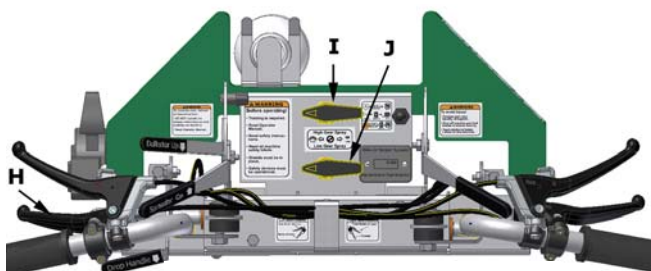

FIGURE 16, Sprayer Controls
Referring to **FIGURE 16:** A Spray Lever (H) with lock is mounted
- To select which nozzle will spray, point the Spray Control Valve handle for the gear selected to the desired nozzle either Broadcast or Trim. The front Spray Selector Valve (I) is used for **HIGH GEAR** and the rear Spray selector Valve (J) for **LOW GEAR**. Point Valve Handle left for Broadcast spraying, right for Trim spraying, and forward to prevent spraying for either nozzle.
- To begin momentary spraying, pull the Spray Lever (H) (FIGURE 16) toward the handgrip.